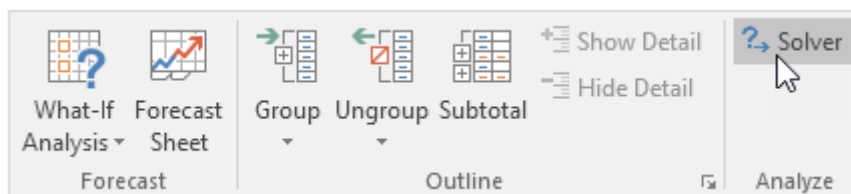

Figure 4. "Data" Tab where it is possible to find the Solver Add-in
4. The Solver Add-in is now active and can be found on the "Data" tab as shown in Figure 4.